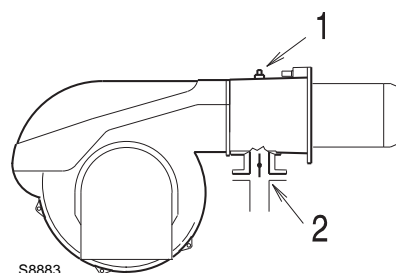

Fig. 29
Gas pressure measured at the test point 1)(Fig. 29), with:
Pressure loss at gas butterfly valve 2)(Fig. 29) with maximum opening: 90°.
- subtract the combustion chamber pressure from the gas pressure measured at test point 1)(Fig. 29).
Gas pressure at test point 1) (Fig. 29) = 31 mbar
To calculate the required gas pressure at test point 1)(Fig. 29), set the maximum output required from the burner operation:
- Read off the pressure at test point 1)(Fig. 29) on the right in column 1.
pressure required at test point 1)(Fig. 29).